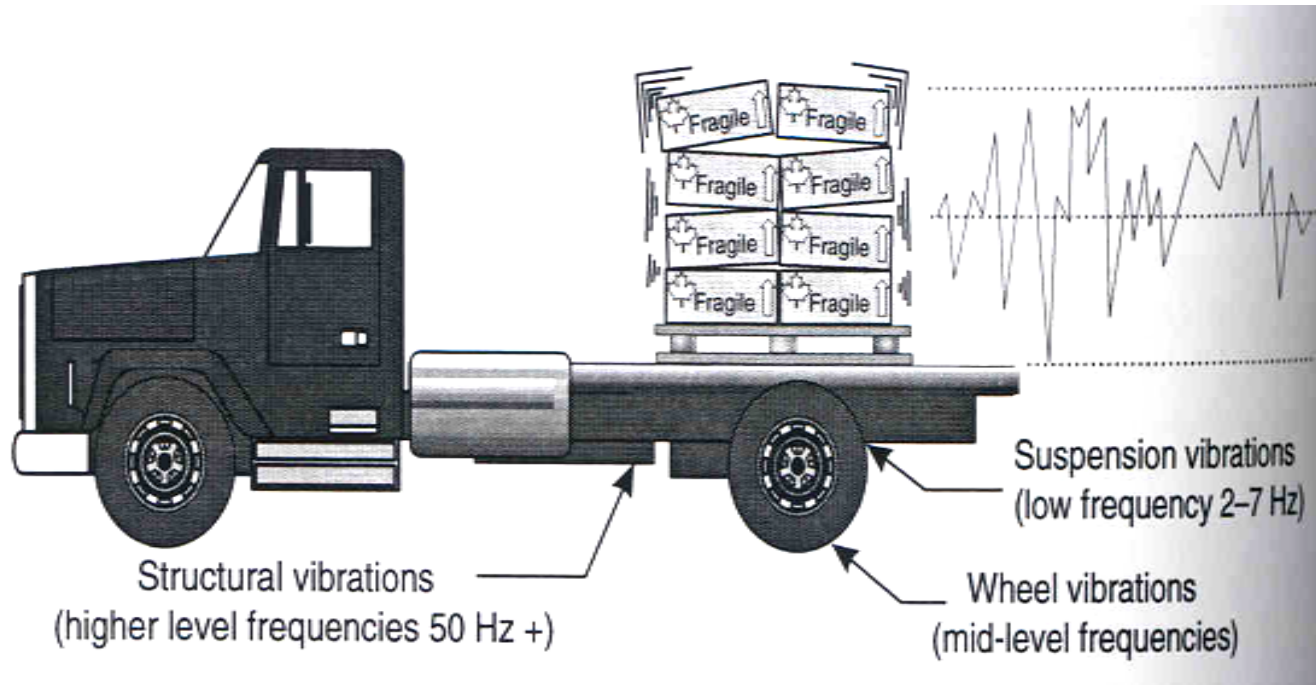

Figure 12.6 Typical source of truck-bed vibrations
Truck vibrations (Figure 12.6): at the natural frequencies of ① the load on the suspension system, ② of the unsprung mass of the tires against the suspension system, and of ③ the trailer and body structure. They are excited by the condition and irregularities of the roadbed, the engine and drive train, tire and wheel imbalance, and the dynamics of the lading, or freight.